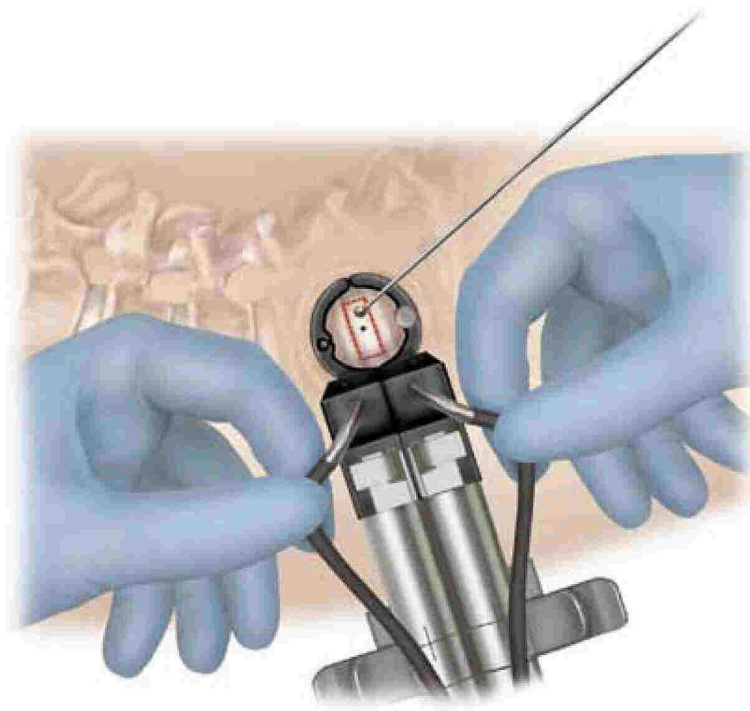

Figure 26
**Step 1** The MAST QUADRANT™ Illumination System is attached to the retractor blades by placing the metal tips of the light source into the holes on the top of the blades and then sliding the tips under the built-in retaining sleeves (**Figure 26**).